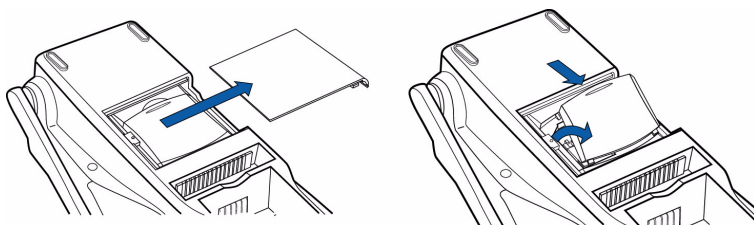

Figure 16 Slide Off SIM Card Access Door and Remove Dust Cover
- 2** Open the SIM card dust cover (Figure 16):
- b** Push dust cover towards arrow shown in Figure 16 to open and remove cover from unit.